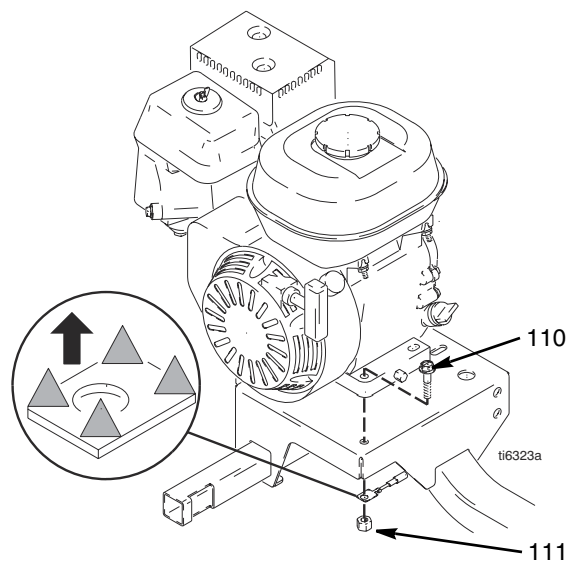

FIG. 13
3. FIG. 13. Remove two locknuts (111) and screws (110) from base of engine.
2. FIG. 13. Install two screws (110) in base of engine and secure with locknuts (111). Torque to 20 ft-lb (27.12 N·m).
2. FIG. 13. Remove two screws (108) and open cover (62a).